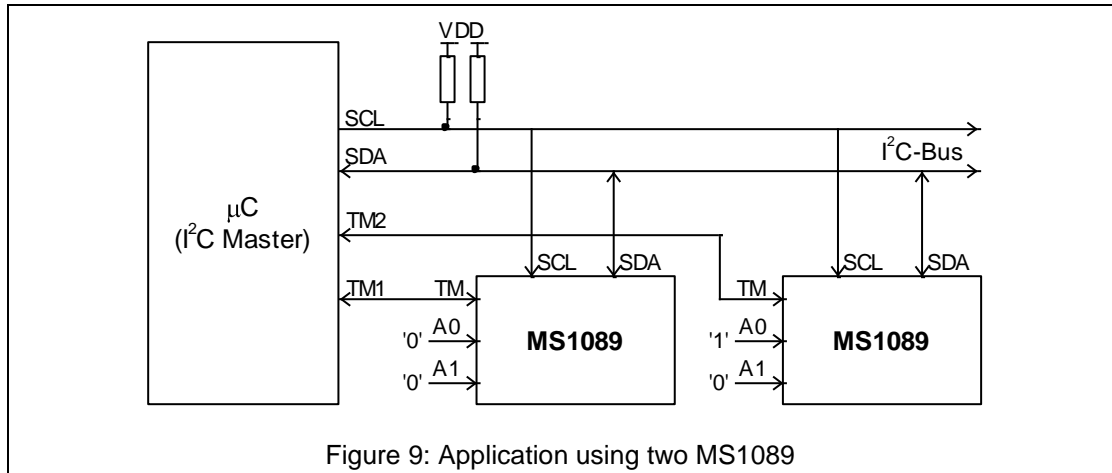

Figure 9: Application using two MS1089
4. If two or more MS1089 are used in the application (for example when measuring the temperature in 2 places - see Figure 9), the controller can start both MS1089 simultaneously by pulling down all TM inputs at the same time. In contrast, starting with I2C requires sending two I2 commands sequentially, one per MS1089 chip.